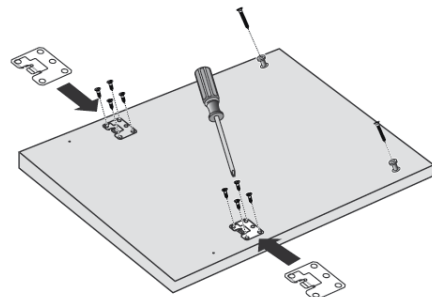

Figure 15
- 1) Install the hook and brackets on the decoration door, see the figure 15.